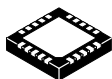

**Figure 18. Solder Paste Application on Pins**
4. The aperture opening for the signal pads should be between 50–80% of the QFN pad area as shown in Figure 18.